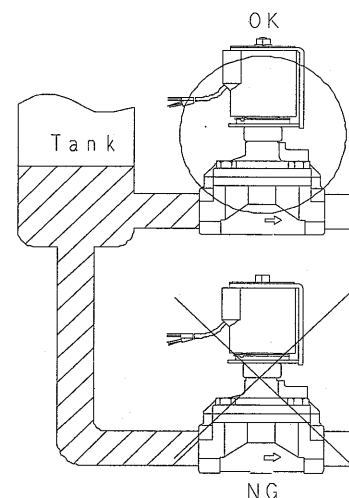

Fig. 6
- (5) When the drainage of water from inside the tank is controlled, if the pipe is placed at the bottom of the tank, accumulated foreign matter may flow into the pipe, causing operational defects in the solenoid valve. The pipe should be placed slightly above the bottom of the tank. (Fig. 6)